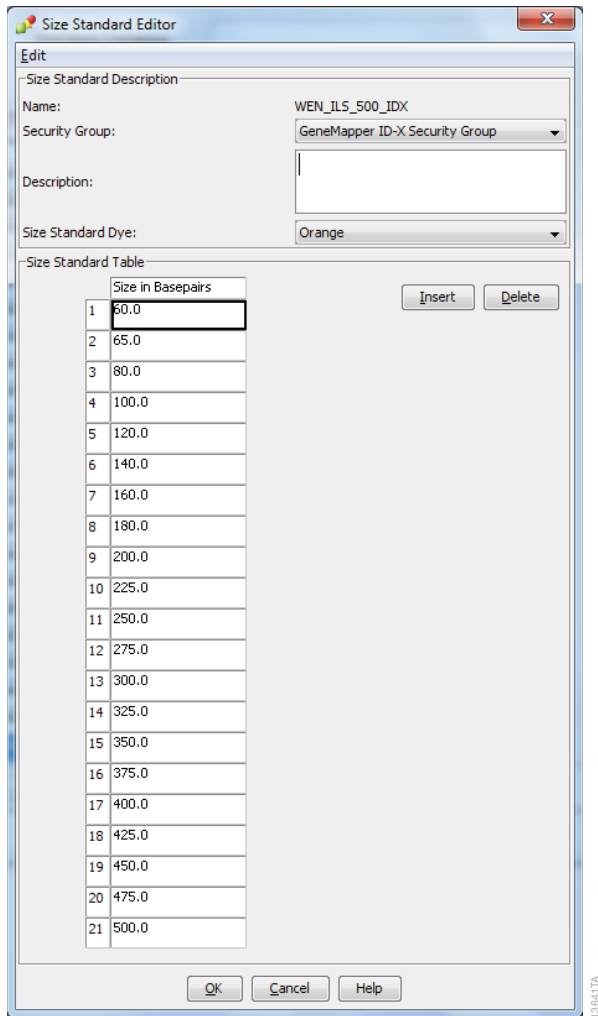

Figure 11. The GeneMapper® ID-X Size Standard Editor.
4. In the 'Size Standard Editor' window (Figure 11), select **GeneMapper ID-X Security Group** as the Security Group. This allows access for all users of the software. Other security groups may be used.